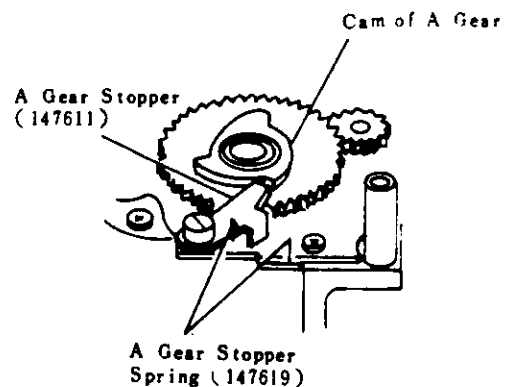

Fig 29
- e) Install A Gear (147603) in position shown in (Fig 29). Install A Gear Stopper Spring (147619) and A Gear Stopper (147611).
Hook A Gear Stopper Spring with A Gear Stopper as show in (Fig 29).
(3) Reassembling of Counter Base Plate Ass'y.
- a) Make the position which A Gear Stopper (147611) is engaged with the cam of A Gear (147603) as shown in (Fig 29).